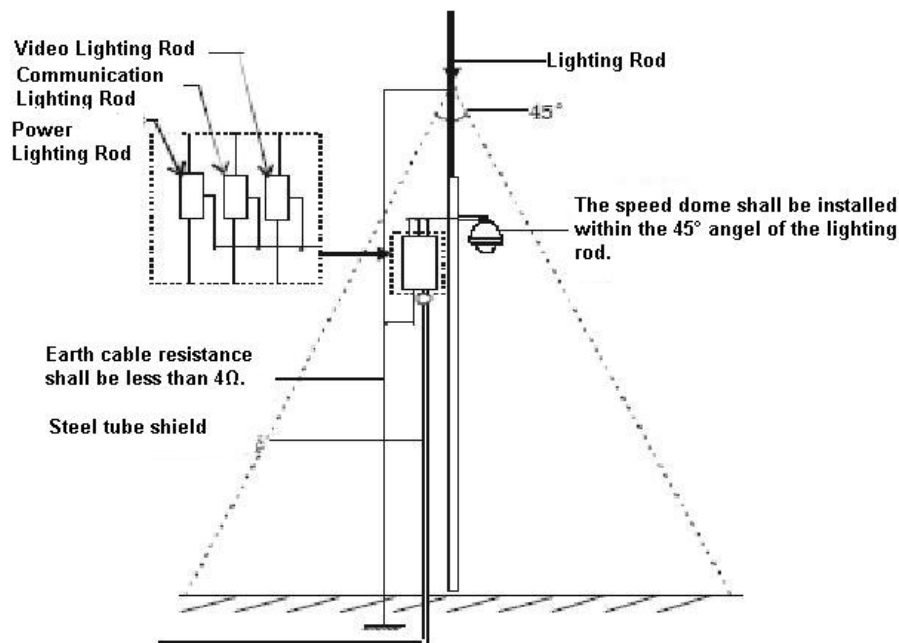

Figure 11-1
- System shall adopt equal-potential wiring. The earth device shall meet anti-jamming and at the same time conforms to your local electrical safety code. The earth device shall not short circuit to N (neutral) line of high voltage power grid or mixed with other wires. When connect the system to the earth alone, the earth resistance shall not be more than $4\ \Omega$ and earth cable cross-sectional area shall below $25\ \text{mm}^2$. See Figure 11-1.